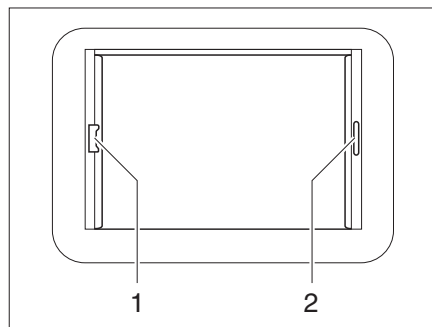

Fig. 50 Heki skylight, blind lock
- Pull out Roman shade at the handle (Fig. 50,2) and release in the required position. The Roman shade will stay in that position.
- Pull the roller insect screen at the handle (Fig. 50,1) to the opposite handle of the Roman shade (Fig. 50,2) and allow to engage.
- At the back, press the roller insect screen handle upward and unhook the roller insect screen at the Roman shade (Fig. 50,2).